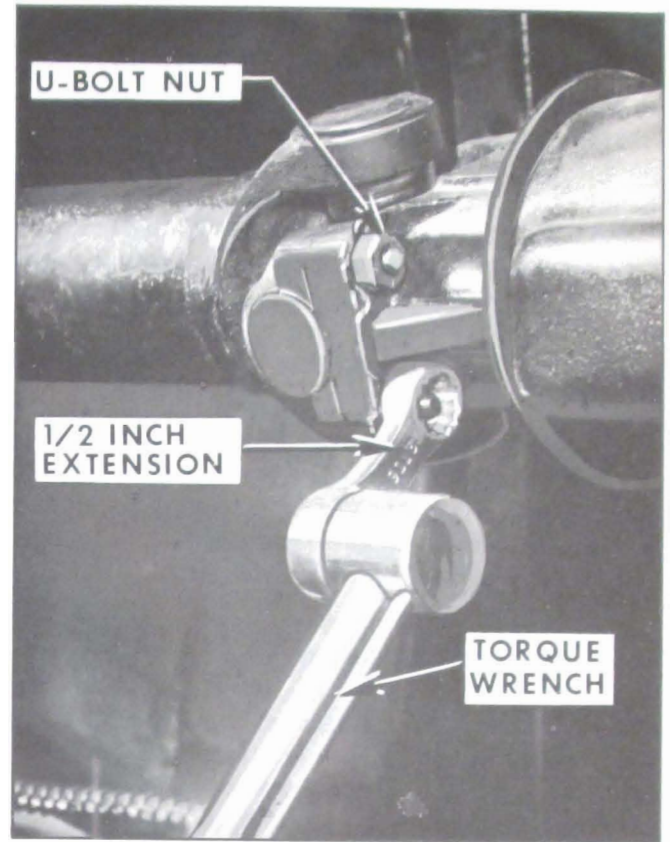

Figure 6-46—Using Extension to Torque U-Bolt Nuts
6. Install U-bolt clamps, new lock plates, and nuts. Draw nuts up evenly and torque to 13 ft. lbs. using a 1/2 inch extension such as J-913. See Figure 6-46. **CAUTION: Over-tightening U-bolt nuts distorts the bearings, causing a binding on the spider which can cause drive line shudder and also reduce the life of the bearings and spider.**